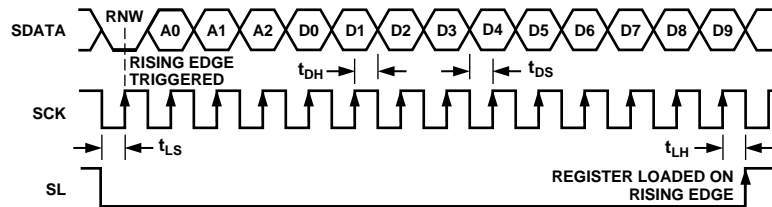

Figure 35. Serial WRITE Operation
**NOTE:** With the exception of a write to the PGA register during AUX-mode, all data writes must be 10 bits. During an AUX-mode write to the PGA register, only 8 bits of data are required. If more than 14 SCK rising edges are applied during a write operation, additional SCK pulses will be ignored (see Figure 35). All reads must be 10 bits to receive valid register contents. All registers default to 0s on power-up, except for the A-register which defaults to 11. Thus, on power-up, the AD9803 defaults to CCD mode. During the power-up phase, it is recommended that SL be HIGH and SCK be LOW to prevent accidental register write operations. SDATA may be unknown. The RNW bit (“Read/Not Write”) must be LOW for all write operations to the serial interface, and HIGH when reading back from the serial interface registers.